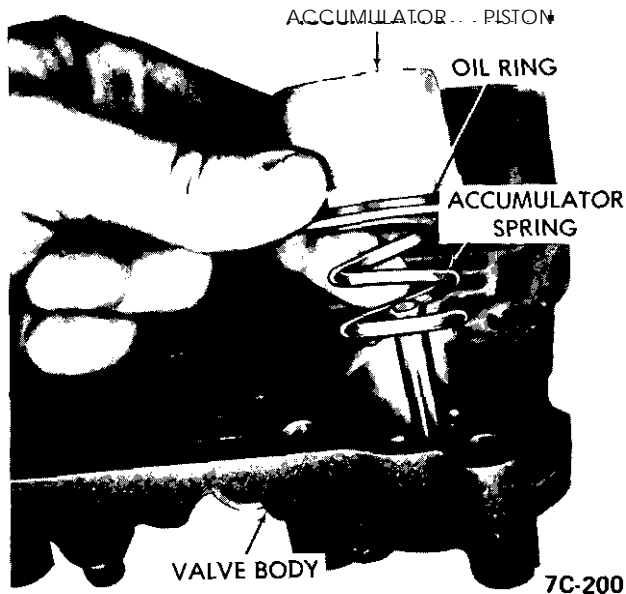

Figure 7C-200
8. Inspect accumulator oil ring for damage or edge wear and piston for damage. Replace if necessary. For steps 9 through 21 refer to Figure 7C-201.